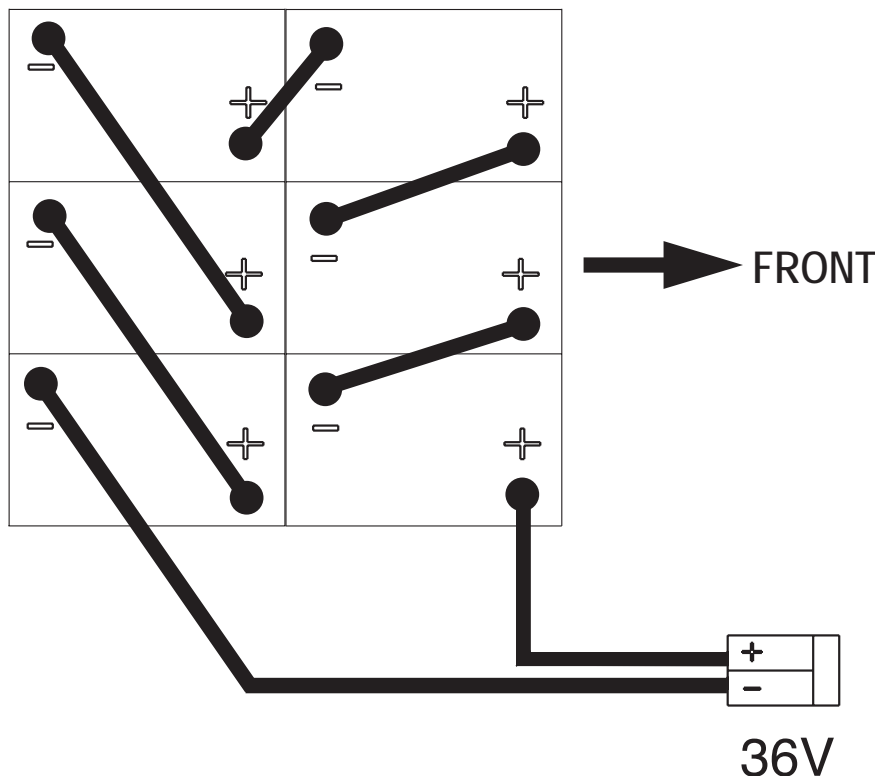

FIGURE 1
- 1 Turn the Key Switch (J) off (O) and remove the key. Then swing open the Battery Compartment Cover (16).
- 2 Using (2) people and an appropriate lifting strap, carefully lift the batteries into the compartment tray exactly as shown. Use decal 56015168 battery cable layout.
- 3 See Figure 1. Install battery cables as shown and tighten the nuts on the battery terminals.
- 5 Connect the battery pack connector to the machine connector (22) and close the battery compartment cover.